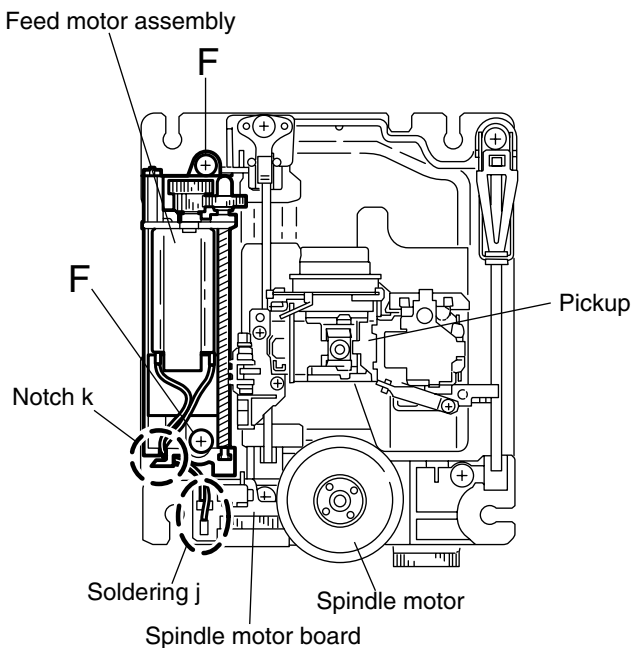

Fig.13
■ Removing the feed motor assembly (See Fig.13)
■ Removing the feed motor (See Fig.13 to 15)
ATTENTION: When reattaching, pass the two cables extending from the feed motor through the notch **k** of the feed holder as shown in Fig.13.